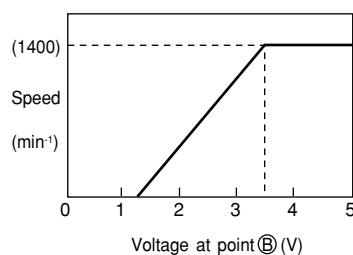

Fig. 7-3
- The pulse is converted into the analog voltage by the R751 and C751 and applied to the fan motor as the speed command voltage. Fig. 7-3 shows the relation between the voltage at the point (B) and the speed. (Some differences will occur due to the condition of the unit.)
- The fan motor outputs the feedback pulse of the speed, which is input into the pin (14) on the micro computer. This pulse is equivalent to a frequency of  $12/60$  speed. (Example:  $1000 \text{ min}^{-1} \times 12/60 = 200 \text{ Hz}$ )